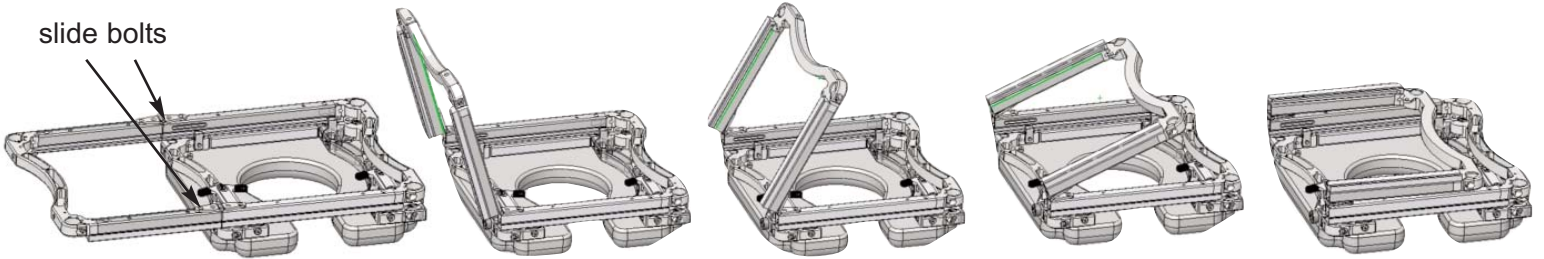

Figure 2
- C** Open the seat frame, lock the slide bolts, and position the frame upside down (Refer to Figures 2 & 3).